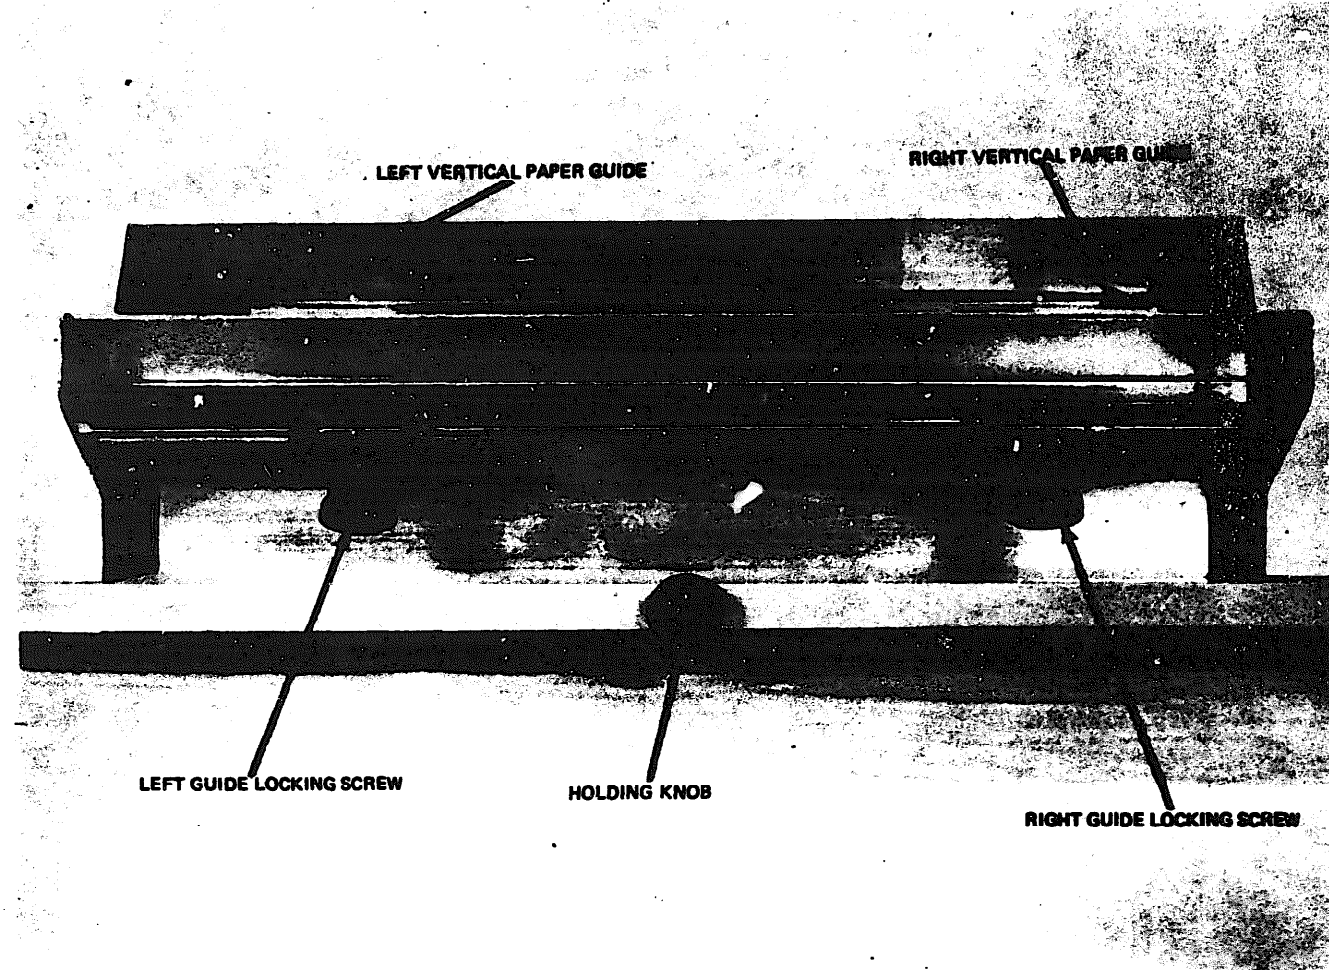

Figure 2-4. Stack Feeder, Tray Assembly
**g.** Perform the following procedure to load the Stack Feeder after installation or when the page size is to be changed (see figure 2-4):
(1) Loosen the left & right guide locking screw underneath the tray.
(2) Position paper in the center of the tray between the guides.
(3) Slide guides up to paper edges allowing 1/16" clearance on either side. Guide position, within the entire horizontal space available, is not critical.
(4) Tighten paper guide hand screws.